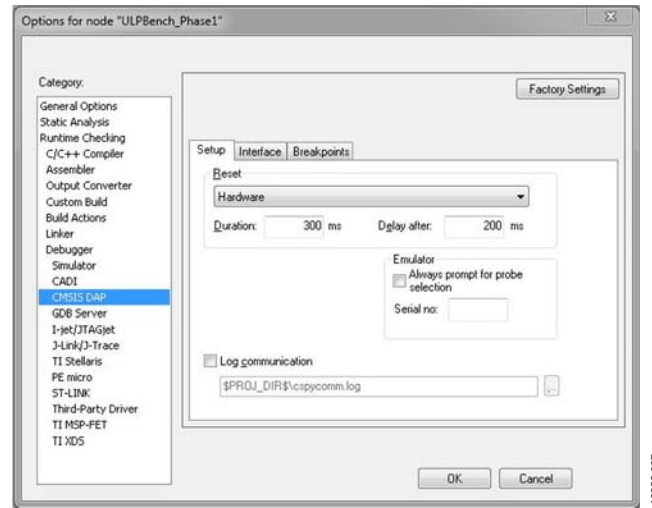
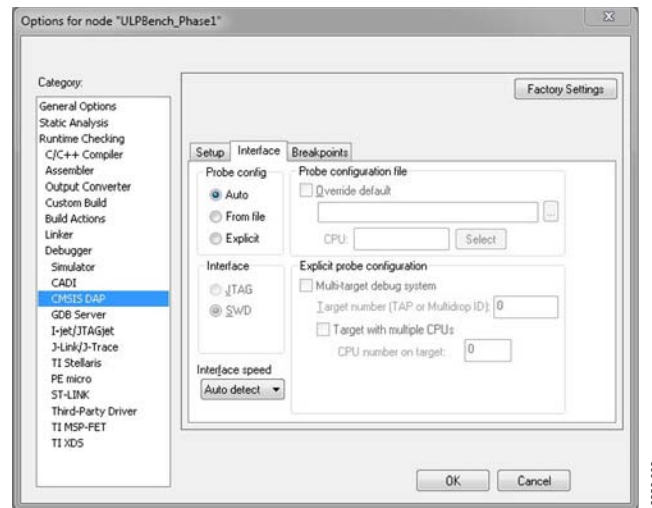

Figure 11. CMSIS DAP—Setup Tab
Figure 12. CMSIS DAP Menu—Interface Tab
- Figure 11 and Figure 12 show the **CMSIS DAP** menu configuration. From the dropdown list in the **Reset** pane, select **Hardware** for the target reset strategy.
In the **Interface** tab, in the **Interface** pane, ensure that the **SWD** option is selected (see Figure 12).